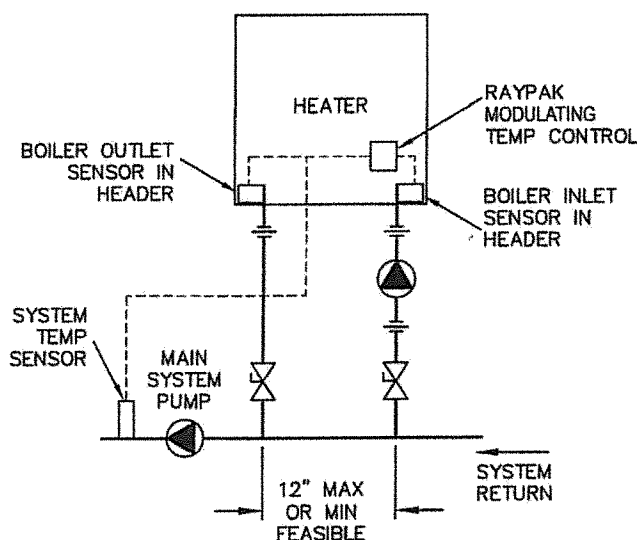

Fig. 28: Mode 2 Primary/Secondary Piping
**Mode 2 – Setpoint operation using primary/secondary piping.** The control operates the heater to satisfy a remote system sensor. The heater is turned off based on boiler max and boiler differential (factory default). See Fig. 28.